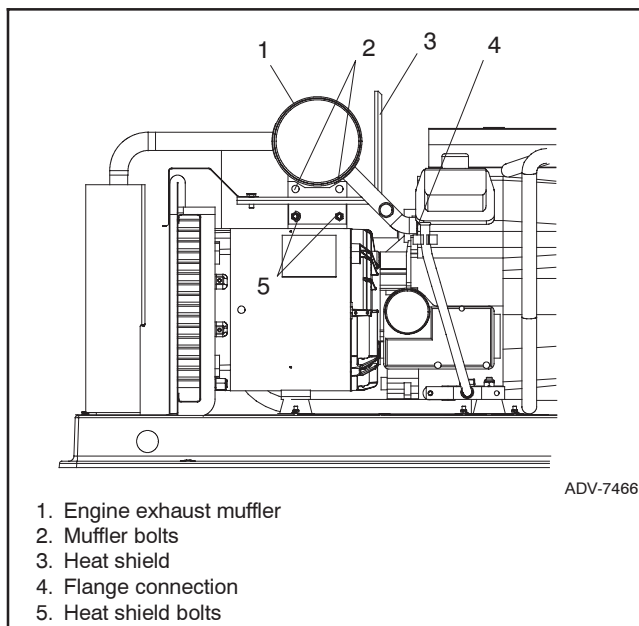

Figure 7-19 Exhaust System
9. Install the exhaust system. See Figure 7-19.